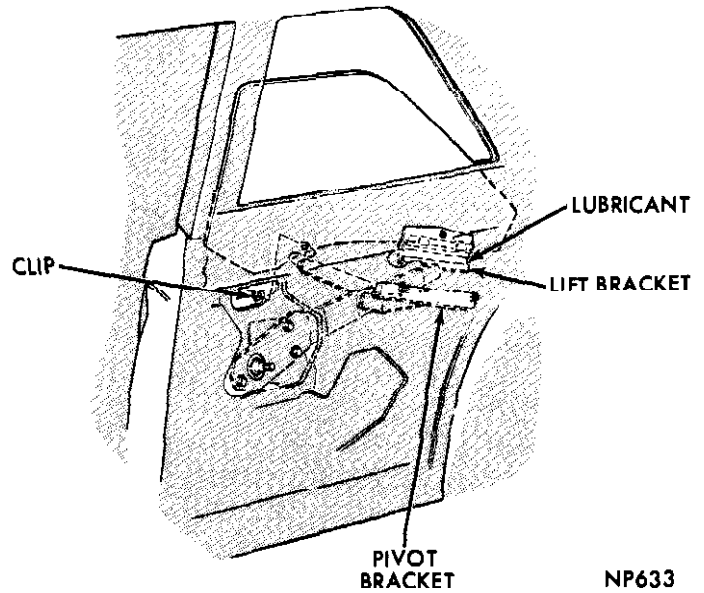

Fig. 34—Quarter Window Replacement—Sedan
- (1) Lower glass and through front access opening, remove clip from regulator arm stud pin (Fig. 34).